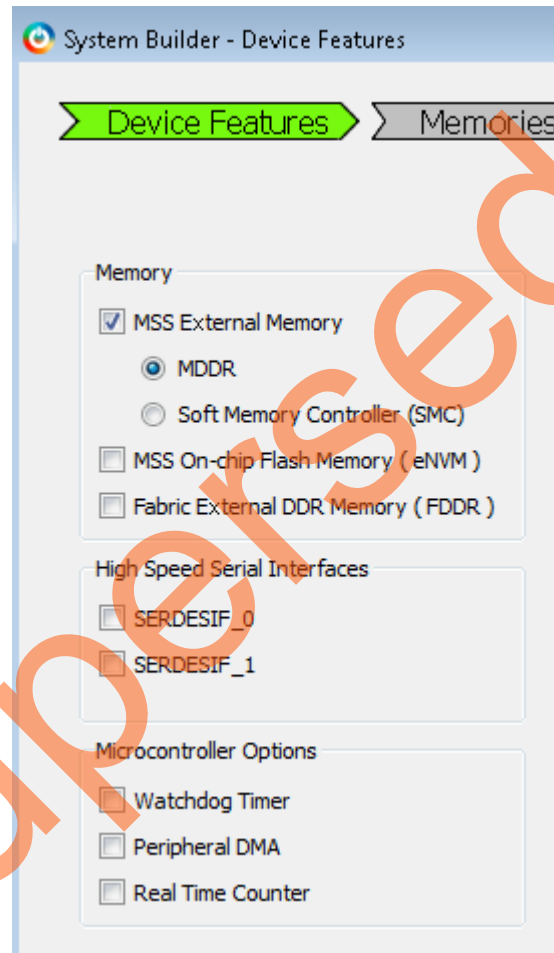

Figure 4. SmartFusion2 SoC FPGA System Builder Configurator
6. Enter **MDDR_system** as the name of the system and click **OK**. The System Builder dialog box is displayed with the **Device Features** page, as shown in Figure 4.